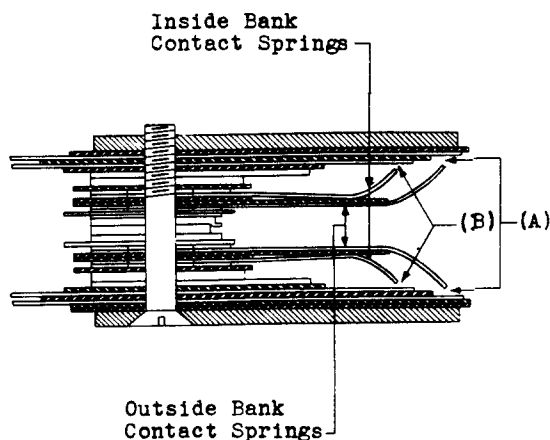

Fig. 2 — Cross Section of Bank
- (a) Fig. 2(B) — There shall be a clearance between the inside bank contact springs and the associated bank contacts of
- (b) Fig. 2(A) — There shall be a clearance between the outside bank contact springs and the associated bank contacts of